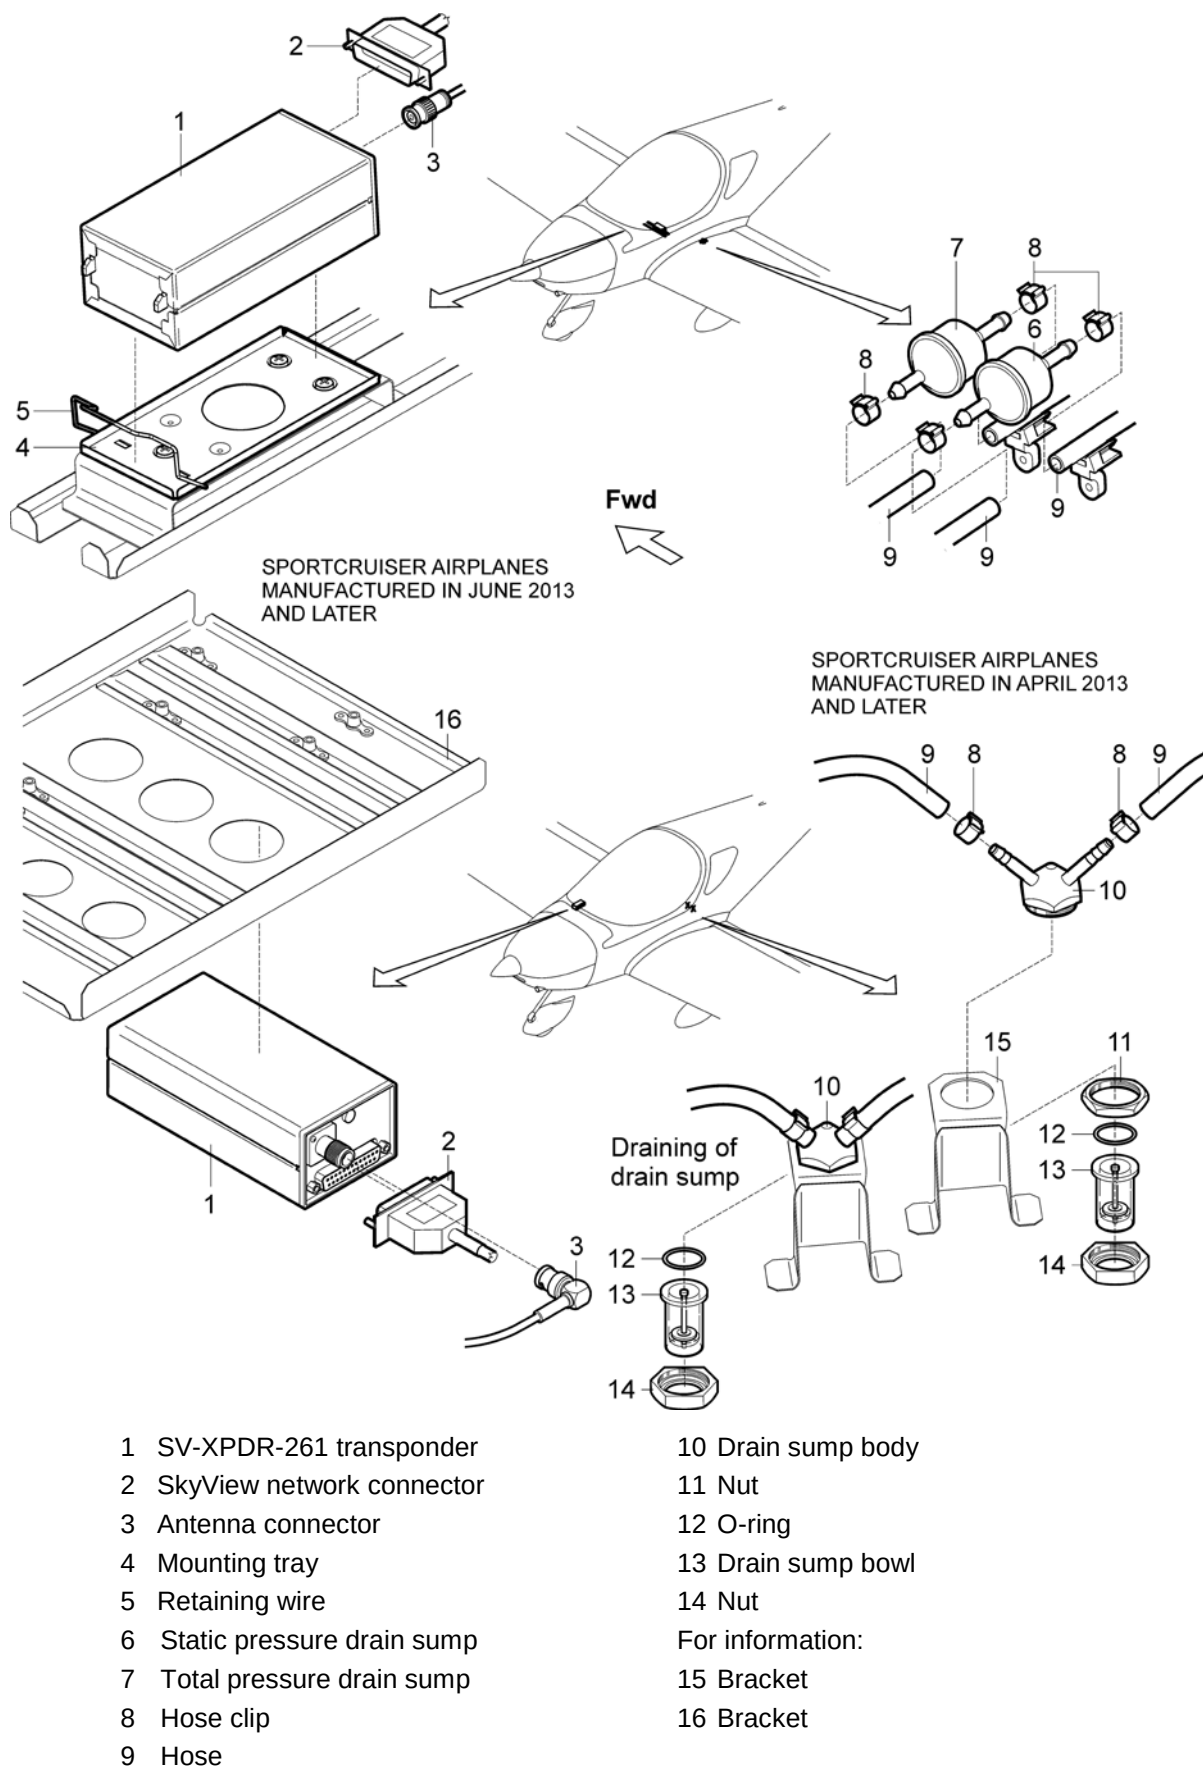

Fig. 12.3.41-1: SV-XPDR-261 transponder and drain sumps removal / installation
- Disconnect the connectors (2; 3, Fig. 12.3.41-1) from the transponder (1).
- Unlock the retaining wire (5) and remove the transponder (1) from the mounting tray (4). (airplanes manufactured in June 2013 and later have mounting tray installed from below the bracket (16)).
- (b) Put the transponder (1, Fig. 12.3.41-1) into the mounting tray (4) by hooking the connector end under the lip on the tray.
- (c) Lock the transponder (1) into the mounting tray (4) by clipping the retaining wire (5) over the lugs on the opposite end (airplanes manufactured in June 2013 and later have mounting tray installed from below the bracket (16)).
- (b) Remove the hose clips (8, Fig. 12.3.41-1) from hoses (9).
- (c) Disconnect hoses (9) of from the drain sump body (10); install protective covers on the hoses and hose ports of the drain sump body.
- (d) Unscrew and remove the nut (14) with the drain sump bowl (13); unscrew and remove the nut (11) and remove the drain sump body (10) from the bracket (15).
- (b) Insert the drain sump body (10, Fig. 12.3.41-1) into the hole in the bracket (15) and fasten it with the nut (11).
- (c) Check the condition of the o-ring (12) a transparent drain sump bowl (13) - replace damaged parts.
- (d) Insert the O-ring (12) to the drain sump body (10), set the drain sump bowl (13) to the drain sump body, screw and carefully tighten the nut (14).
- (c) Disconnect hoses (9) of static and total pressure from the drain sumps (6; 7).
- (e) Connect the hoses (9) to the drain sumps (6; 7) and secure them with cable clips (8).
- (b) Unscrew and remove the nut (14, Fig. 12.3.41-1) with the drain sump bowl (13).
- (c) Clean and dry the drain sump bowl (13).
- (d) Check the condition of the o-ring (12) a transparent drain sump bowl (13) - replace damaged parts.
- (e) Insert the O-ring (12) to the drain sump body (10), set the drain sump bowl (13) to the drain sump body, screw and carefully tighten the nut (14).